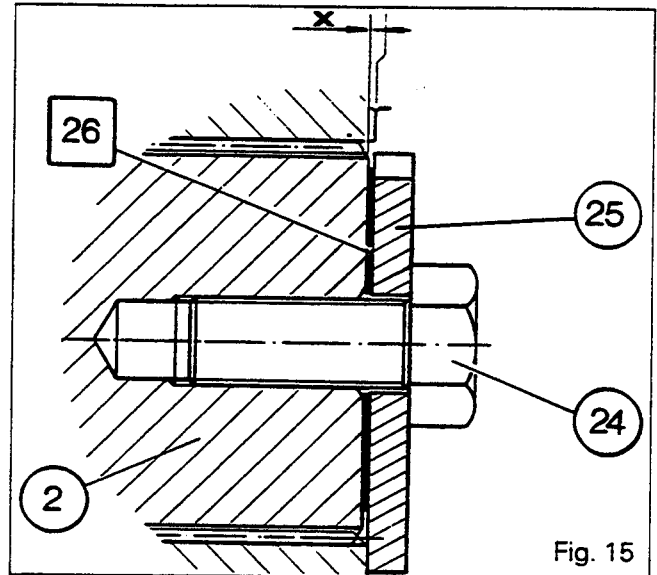
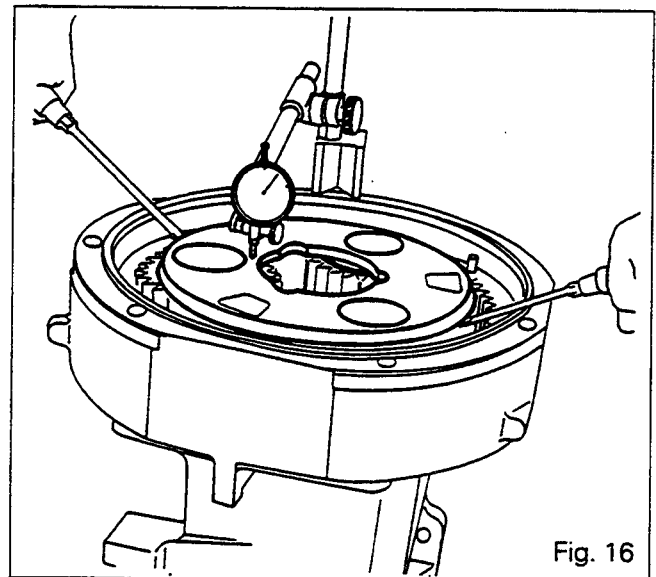

Fig. 15
Fig. 16
4. Fit shims [26] required to provide thickness greater than dimension **X** to obtain end play (Fig.15).
5. Fit the washer (25) and the bolt (24) and tighten to a torque of 270-440 Nm.
6. Using a dial gauge, check the end play by moving the planetary carrier laterally (Fig.16).
7. Remove the bolt (24) and the washer (25).